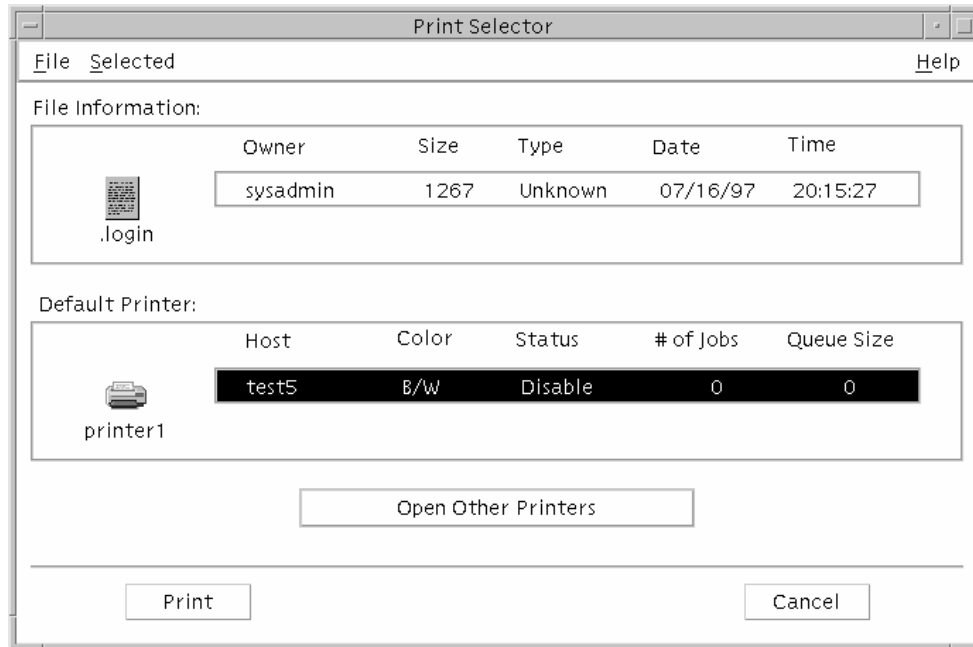

Figure 4. Print Selector Window
- STEP 2: **Move the file you wish to print to the Printer control.** In the `File Manager` window, highlight the file you wish to print, drag it (hold down the middle mouse button) to the `Printer` control in the CDE front panel, and drop it (release the mouse button). The `Print Selector` window appears (Figure 4), unless you have previously selected a “Specified” printer for easy access (see Section 6.2.1.2.2, *Creating a Specified Printer on the CDE Front Panel*).